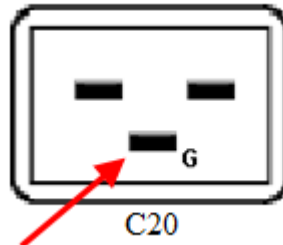

Figure 91 The ground conductor on the rear panel AC power connector
- b The primary earth ground conductor on the rear panel AC power connector as shown in Figure 91.